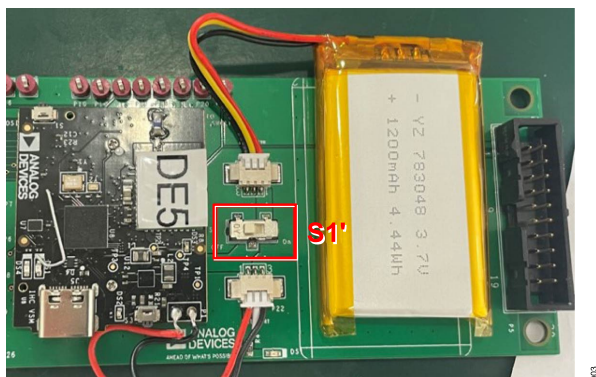

Figure 3. Battery Connected to the EVAL-ADPD7000Z
1. Connect the battery to the connector on the EVAL-VSMUCZ board. Ensure that the S1' switch is OFF (see Figure 3).